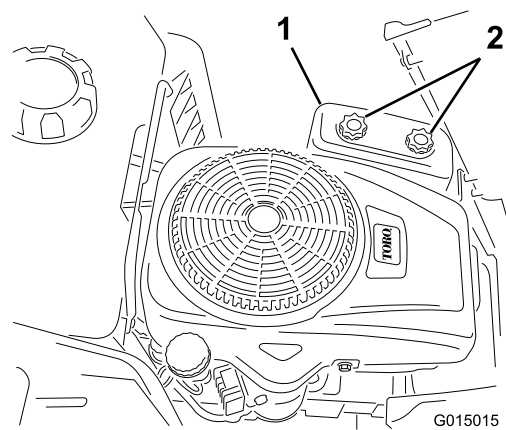

Figure 20
5. Remove the air cleaner cover by unscrewing the 2 knobs (Figure 20).